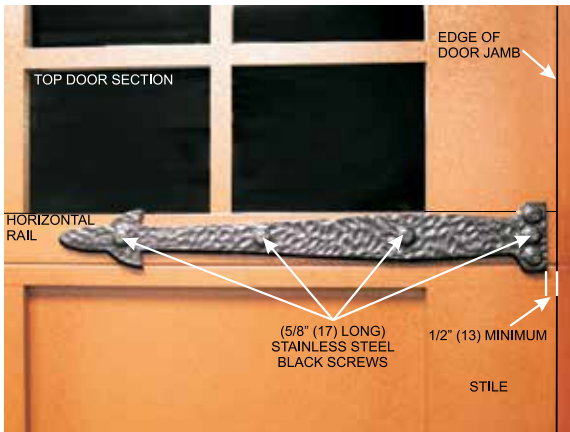
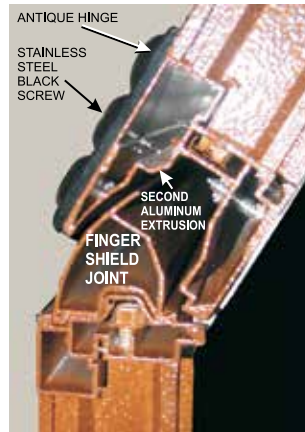

FIGURE 3
FIGURE 4
5. For Antique Hinge, decide, level, mark, and drill one 1/8"(3) hole through the horizontal rail. See FIGURES 3 and 4. Attention! Do not drill through second aluminum extrusion or steel profile. See FIGURE 4
6. Fasten Antique Hinge with one (5/8"(17) long) stainless steel black screw provided.
7. Level the Hinge with the Horizontal Rail, then drill the other three 1/8"(3) holes in the horizontal rail. Fasten the hinge with three additional (5/8"(17) long) stainless steel black screws provided. See FIGURES 3, 4 and 5